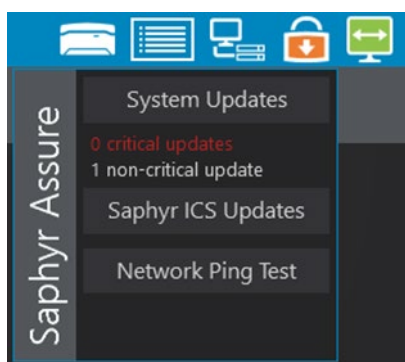

Figure 1. Saphyr System Updates
- Windows Updates (applicable to both Saphyr and Stratys):** Bionano is committed to providing tested and validated security updates in a timely manner. The Instrument Controller does not permit automatic Windows updates as they often cause a system restart which would interrupt instrument operations. The ICS had been designed to manage the detection, validation, and installation of Windows updates to ensure that the system is kept up to date with the latest security updates while ensuring compatibility with our systems. The ICS checks (daily) for available windows updates from Microsoft’s servers. When an update is detected, it is sent to the Bionano Assure service to check whether it has been tested and validated to function properly with the Instrument Controller. When an update has been tested and released, the user will be notified of pending updates to install. When the instrument is idle and not processing a chip, the user can click the update icon and install pending updates (**Figure 1 or Figure 2**).